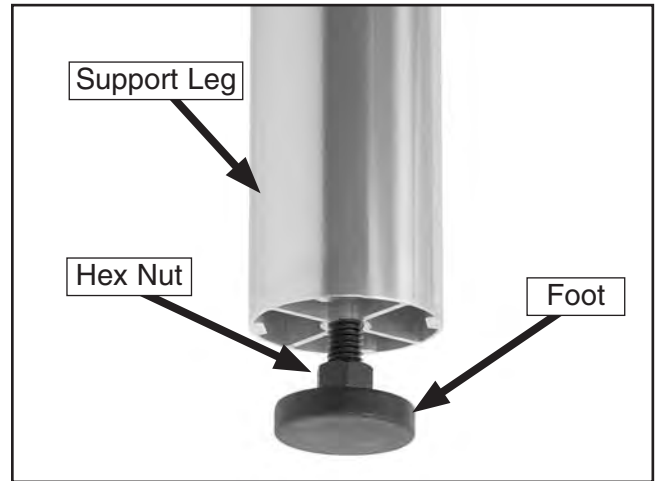

Figure 19. Foot installed on support leg.
- Install each foot with a $\frac{3}{8}$ -16 hex nut onto into the bottom of a support leg, as shown in **Figure 19**.